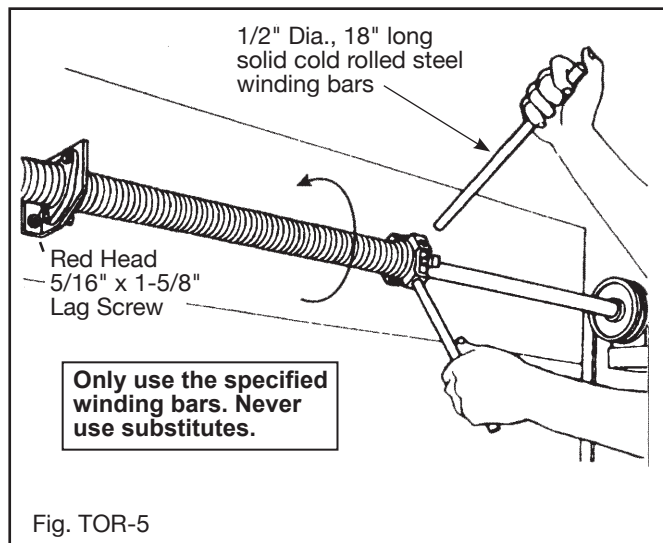
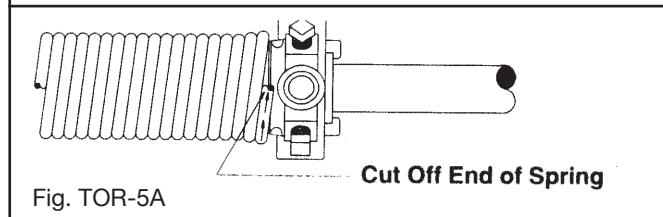

Fig. TOR-5
Fig. TOR-5A
**NOTE:** Red-headed fasteners must be installed for the attachment of center bearing plate to indicate this part will be under extreme tension once spring is wound (FIG. TOR-5).
The stenciled description can be used as a straight line to indicate the number of turns on the spring(s). If there is no straight line present, make one with a piece of chalk. After inserting the two winding bars all the way into the winding cone, wind the springs 1/4 turn at a time in an upward direction as shown in FIG. TOR-5. The number of turns is shown in the table in FIG. TOR-2. The tail of the torsion spring coil points in the direction that the spring is wound (FIG. TOR-5A).